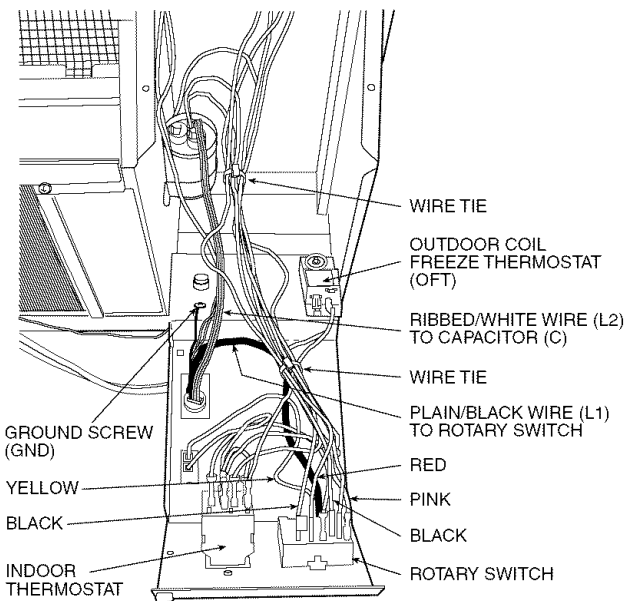

Fig. 3 — Typical Control Wiring — Standard Units (Heat Pump Unit Shown)
4. Disconnect the power cord by removing the ribbed/white wire at the capacitor (C) terminal, the plain/black wire from the rotary switch at terminal L1, and both power cord and chassis ground wires from ground screw. See Fig. 3 and 4.
1. Remove the two mounting screws on the Outdoor Coil Freeze Thermostat (OFT) and save. See Fig. 3.